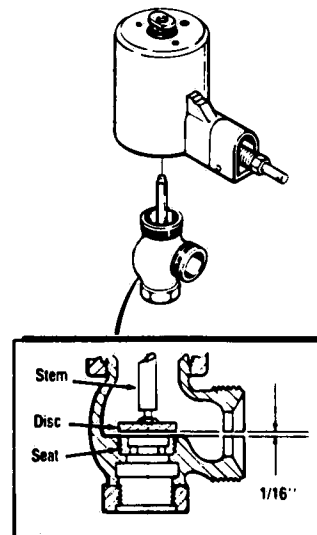

Figure 7-4. HI-LO VALVE ADJUSTMENT.
1. Screw valve seat (21) into body. (Hex side down.)
2. Replace stem and disc (20) in syphon (19), and screw bonnet onto body.
3. Position fork (9) on bottom plate (13). Insert pivot pin (10) and cotter pins (11).
4. Screw reinforcement (4) onto bellows, and fasten to cover with two screws (2).
5. Set lower spring plate (8), spring (7), and upper spring seat (6) in place. See that the lugs on the spring seat are properly positioned in the fork bearings.
6. Replace cover (1) and bellows (5), and secure cover with the four screws. (3)
7. Lower this entire assemblage into position over the syphon, aligning the notches in the bottom plate with the lugs on the bonnet, to allow the bottom plate to seat on the bonnet. Replace screw (12).
8. Turn adjusting screw (18) fully counterclockwise, to remove all tension from the spring. Turn the stem protruding from the bellows to establish a clearance of 1/16 inch between the seat and the disc (Fig. 7-4). If valve was not removed from sterilizer, open side connection to see disc and seat.
10. Loosen nut (25) and back out screw (26) to ensure that it does not contact adjusting fork (9). Turn adjusting screw (18) counterclockwise until minimum load with no rattle is obtained on spring.
11. Adjust screw (26) until it bottoms on fork (9). Lock in place with nut (25).